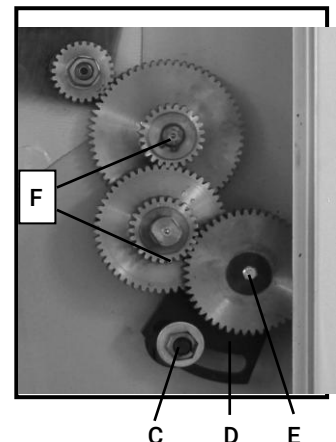

Fig. 19
3. Loosen the locking screw (C, Fig. 19) on the quadrant.
4. Swing the quadrant (D, Fig. 19) to the right.
5. Unscrew the bolt (E, Fig. 19) from the leadscrew, or the square bolts (F, Fig. 19) from the quadrant, to remove the change gears from the front.